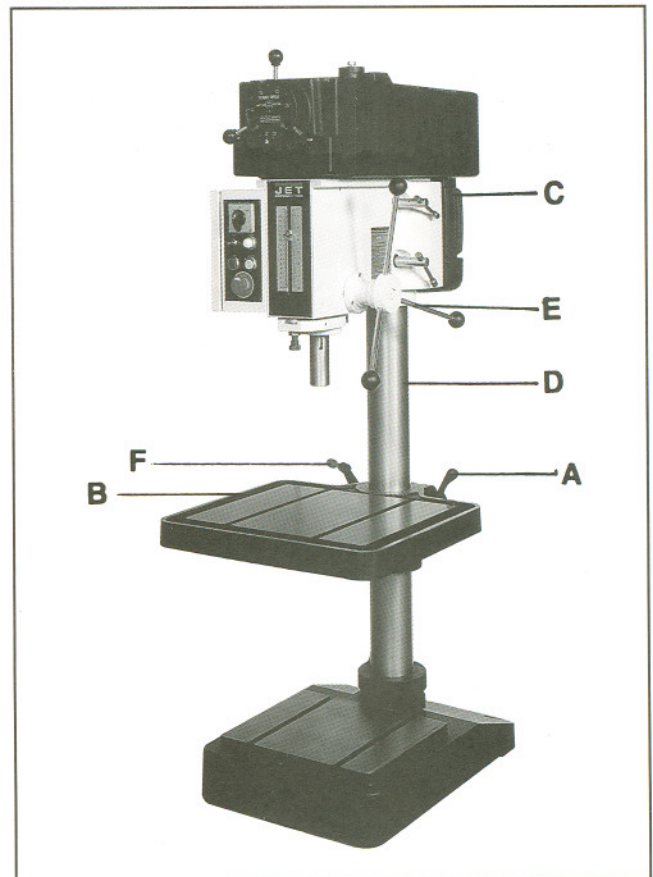

Fig. 1
1. Loosen the table lock (A, Fig. 1).
3. Raise the table (B, Fig. 1) and place the 2" x 4" between the table and the head (C, Fig. 1) as close the column (D, Fig. 1) as possible. Caution: Do not place the 2" x 4" under the lock collar (E, Fig. 1).
4. Using the table lift crank (F, Fig. 1), raise the head until the head bore and the column are flush. Use a ladder to observe the column through the top of the belt cover.